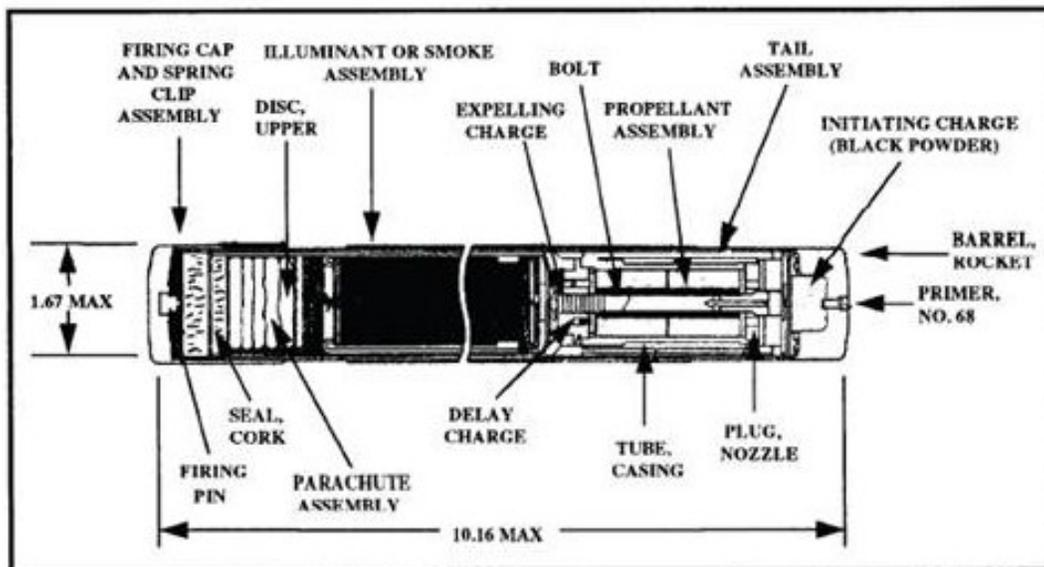

Figure 551-8ST-1019\_08
(3) Replace light in bracket with lens down.
8. Maintain distress signals (Figure 551-8ST-1019\_08).